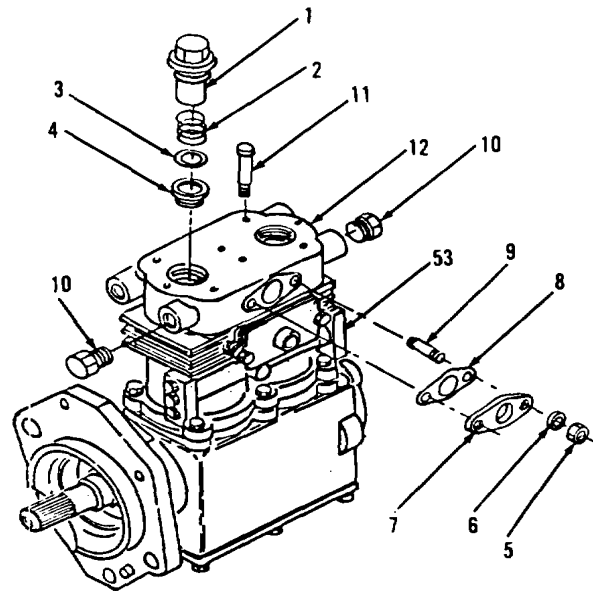

Figure 6-46.
1. Remove two nuts (1), springs (2) and valves (3) from cylinder head (12, Figure 6-46).
2. Remove two seats (4).
3. Remove two nuts (5), lockwashers (6), fitting (7), gasket (8) and two bolts (9). Discard gasket (8). Remove all gasket material from mounting surfaces.
4. Remove two plugs (10).
5. Remove eight bolts (11) from cylinder head (12) and block (53).